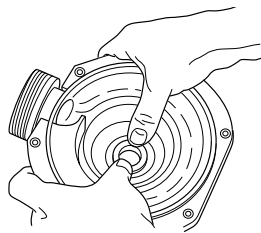

Figure 6
1. Ceramic seat must be clean and free of dirt, grease, dust, etc. Wet rubber cup gasket of ceramic seat with **small** amount of water; press into cavity firmly and squarely with finger pressure (Figure 6).